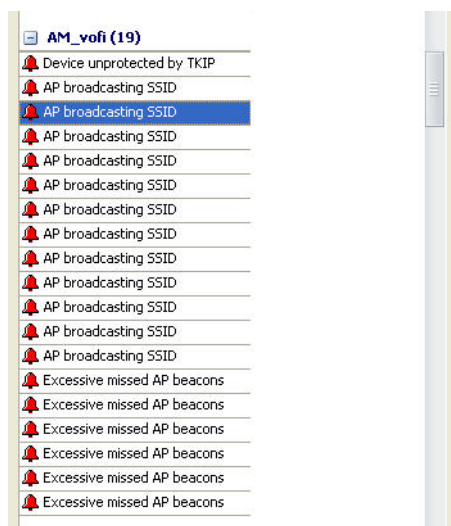

Figure 15-44: Viewing device-specific alarms
Once you click *View Device Alarms*, the AirWISE screen will refresh and it will focus on all alarms generated by the same device. See Figure 15-44.
- 4) To return to the general AirWISE screen, click the filter down arrow above the Network Policy Hierarchy and select **View by AirWISE Category** from the drop-down list. Refer to Figure 15-44.